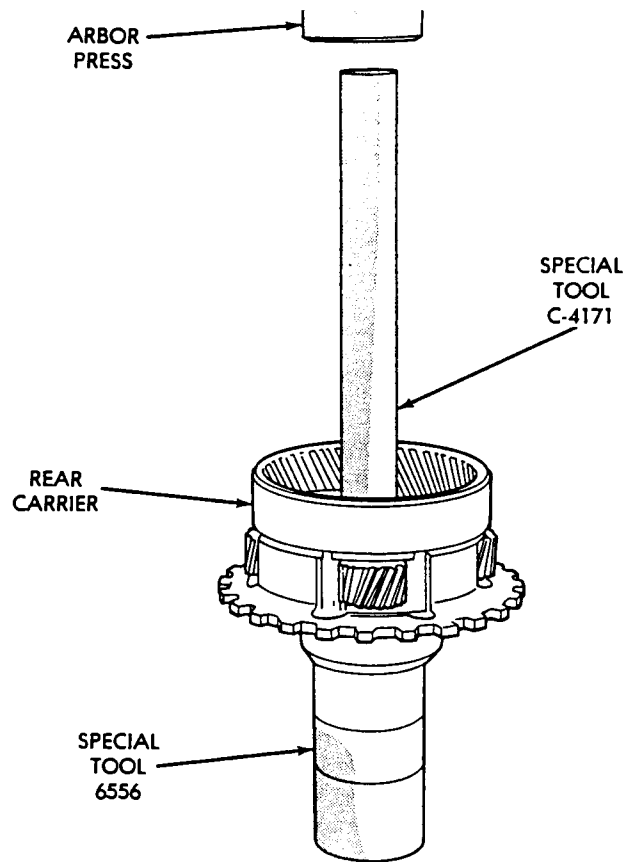

Fig. 1 Install Rear Carrier Front Bearing Cone
- (1) Install rear carrier front bearing cone (Fig. 1).